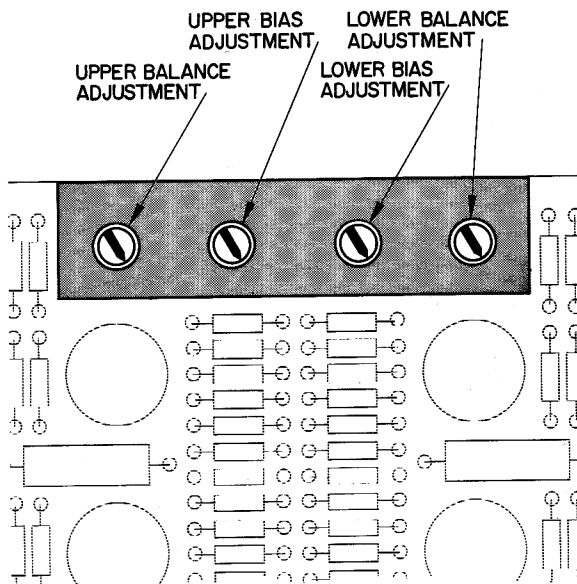

Figure 4-1
Step 4: Adjust the upper servo balance control on the servo amplifier card (Figure 4-1) for a zero vdc differential reading of the voltmeter.